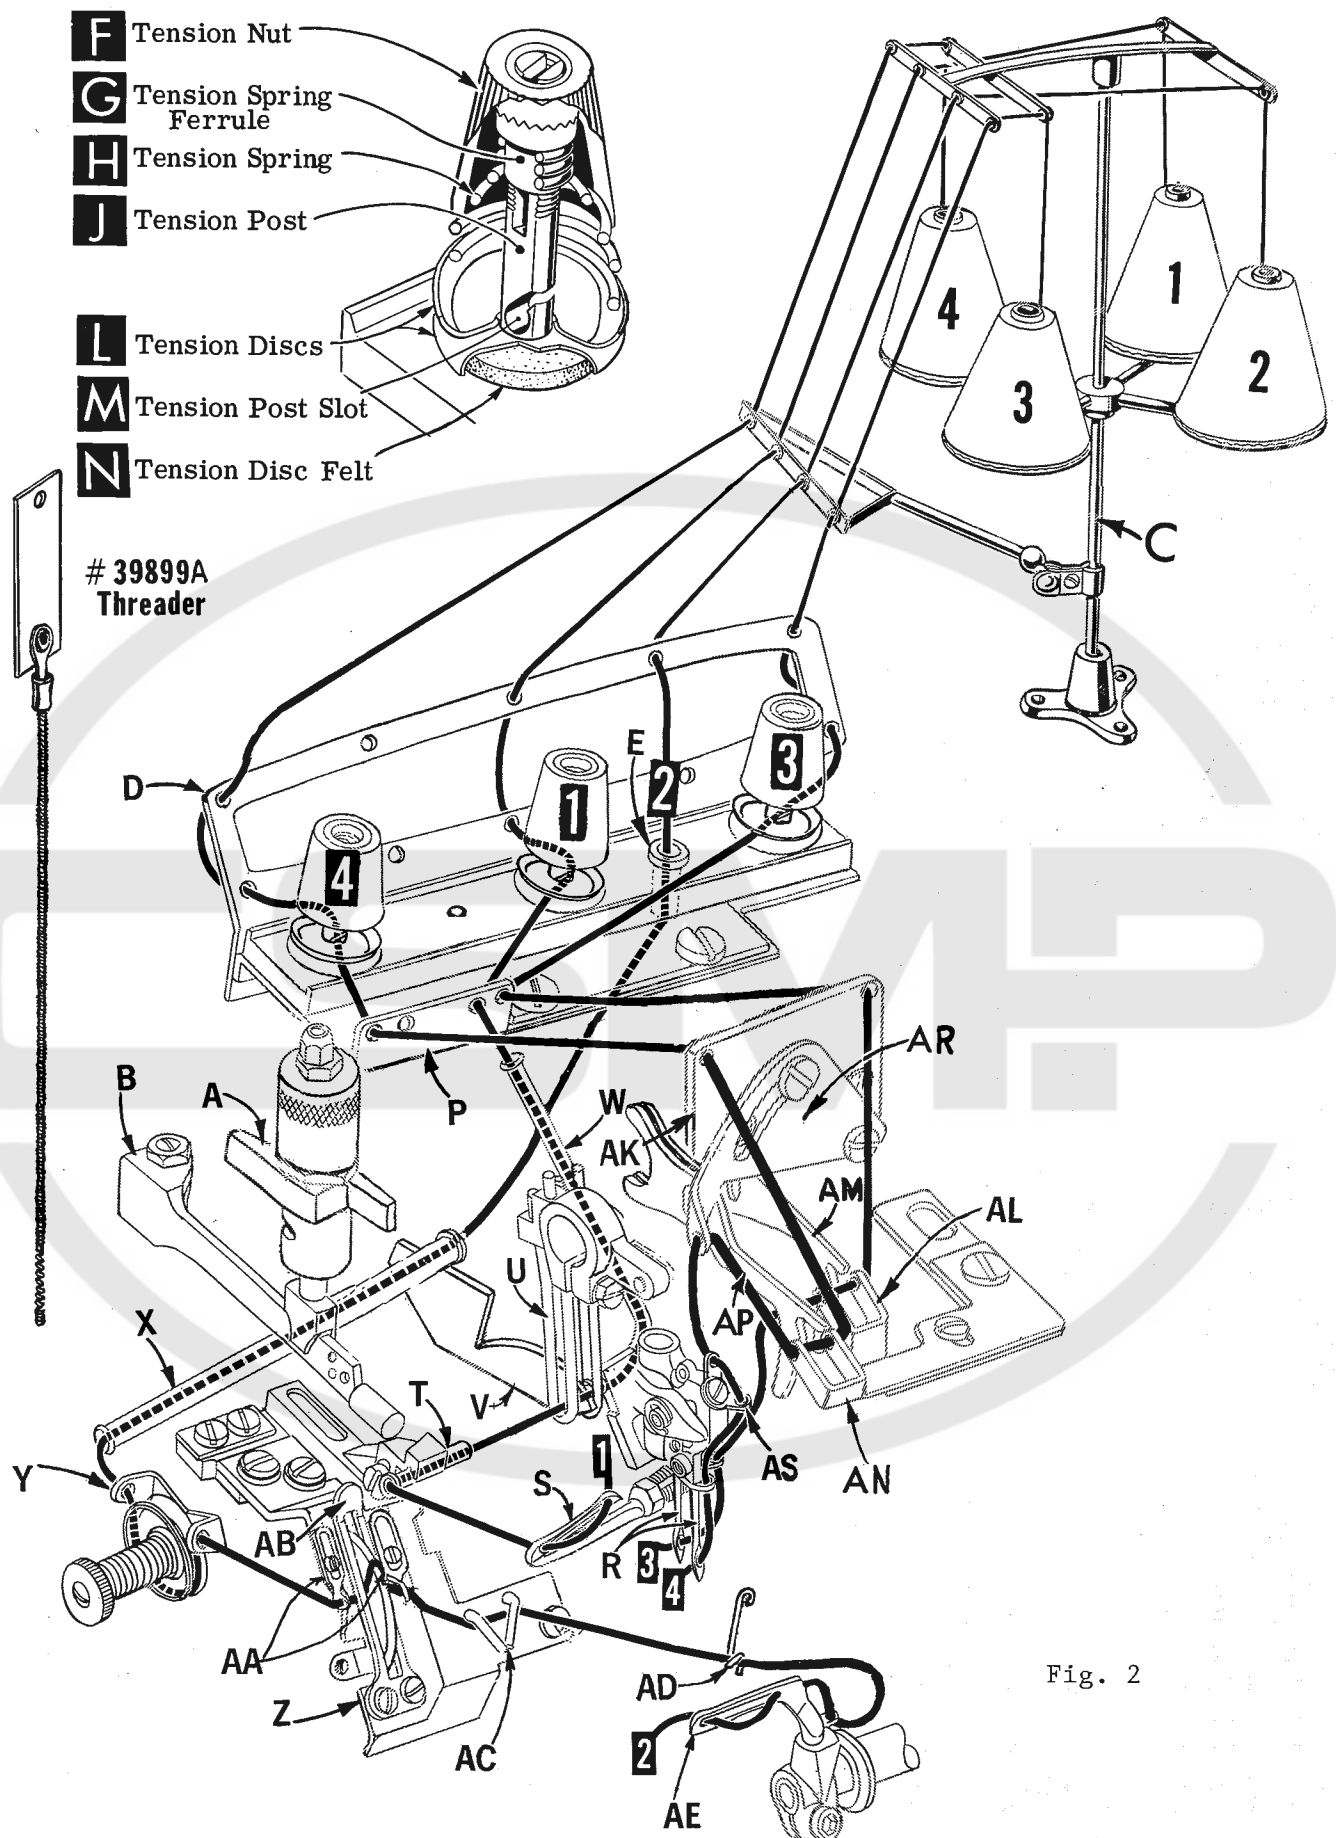

Fig. 2
Thread from thread stand (C, Fig. 2 or 2A) is threaded through the upper holes of tension thread guide (D) from front to back and then through the lower holes from back to front: NOTE: Thread No. 2 (401 looper - blue color code) is threaded through the upper hole of tension thread guide (D) from back to front and down through tension post thread bar eyelet (E). All other threads continue between the tension discs (L), through tension post slot (M) in tension post (J) and on through its proper hole in front thread guide (P).
Before beginning to thread, swing cloth plate open, turn handwheel in operating direction until the needles (R, Fig. 2 or 2A) are at their highest position, release pressure on presser foot by turning presser foot release lever (A), and swing presser arm (B) out of position.
Turn handwheel until the point of lower looper (S) is all the way to the right. Use threading wire #39899 A (Fig. 2 or 2A) by inserting into the left end of tube (T) and push through same; through the inside of take-up wires (U) passing over and/or in front of cast-off blade (V) and through long tube (W) until the threading wire protrudes out of same in front of the front thread guide (P). Hook lower looper thread (No. 1) into the threading wire and pull back until the thread comes out of the left end of tube (T). Turn handwheel until the lower looper (S) is at its extreme left position; then thread lower looper through its left eye, entering from the rear and through the right eye, entering from the front.
The amount of tension on the needle and looper threads is regulated by the knurled tension nuts (F, Fig 2 or 2A). Tension on the threads should be only enough to secure proper stitch formation. Using a postal scale, the measurements are taken with the needles at the top of their stroke and pulled in the direction as indicated. As a start, the approximate tensions should be as follows:
Lower looper thread; 1 to 1 1/2 oz. (28.35 to 42.52 gr) straight out of left end of thread tube (T. Fig. 2 or 2A).
401 looper thread; 1 to 1 1/2 oz. (28.35 to 42.52 gr) straight out of eye at point of looper (AE, Fig. 2 or 2A)